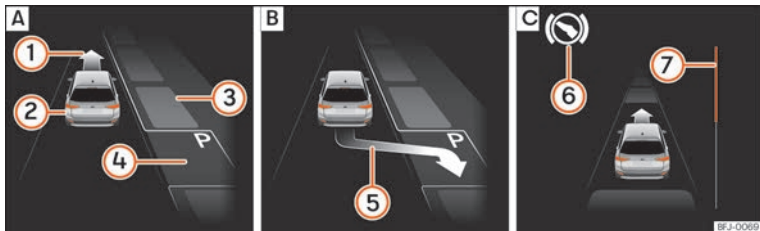
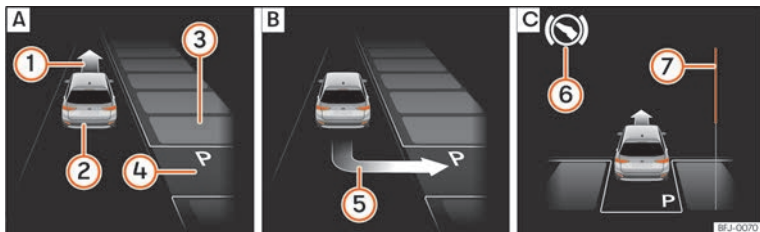

Fig. 283 On the instrument panel display: perpendicular parking. **[A]** Finding a parking space. **[B]** Parking position. **[C]** Manoeuvring.
Fig. 284 On the instrument panel display: parallel parking. **[A]** Finding a parking space. **[B]** Parking position. **[C]** Manoeuvring.
Key to **Fig. 283** and **Fig. 284**:
» **Fig. 283** ⑦ and » **Fig. 284** ⑦ on the screen of the instrument panel displays the relative distance to be covered. The greater the distance, the fuller the progress bar. When driving forward, the content of the progress bar decreases upwards, and when reversing, it decreases downwards.
2.	Look at the display on the instrument panel to see if the space has been detected as "appropriate" and if the correct position for parking has been reached »» Fig. 283 [B] or »» Fig. 284 [B]. The space is considered "appropriate" if the display on the instrument panel shows the message to park [5].
Reverse until the ParkPilot continuous signal is heard. OR: reverse until the instrument panel displays the message to go forwards »» Fig. 283 [C] or »» Fig. 284 [C]. OR: reverse until the instrument panel displays the message Park Assist finished .
The Park Assist system steers the vehicle forward and back until it centres it in the space »» Fig. 283 [C] or »» Fig. 284 [C].